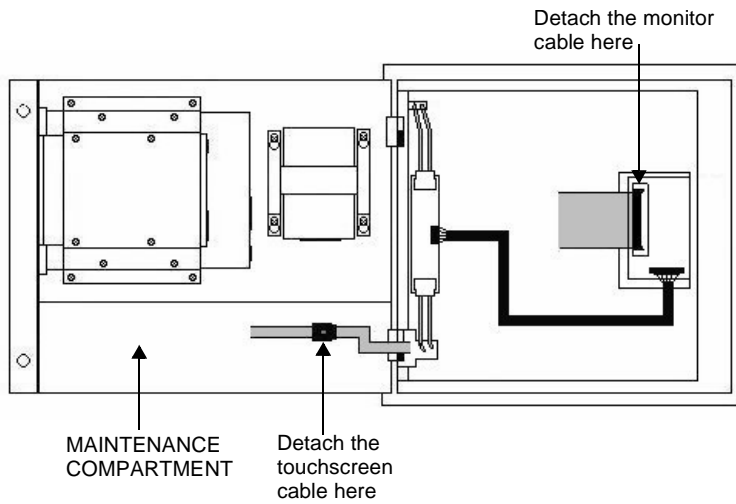

Figure 2: : Disconnecting PC9 Cables
6. If you have a PC9, disconnect the two cables connecting the faceplate assembly and backshell, as shown in Figure 2. Then go to step 8.